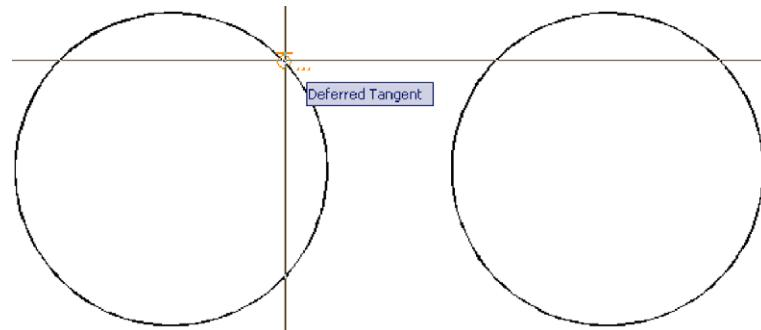
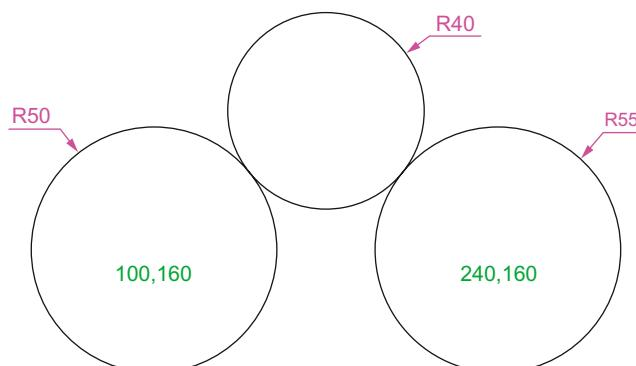

Fig. 2.14 Second example – **Circle** tool – the two circles of radius 50
Fig. 2.15 Second example
### Second example – Circle tool (Fig. 2.15)
2. *Left-click* on the **Circle** tool icon and construct two circles as shown in the drawing Fig. 2.14 in the positions and radii shown in Fig. 2.15.
The circle of radius **40** tangential to the two circles already drawn then appears (Fig. 2.15).